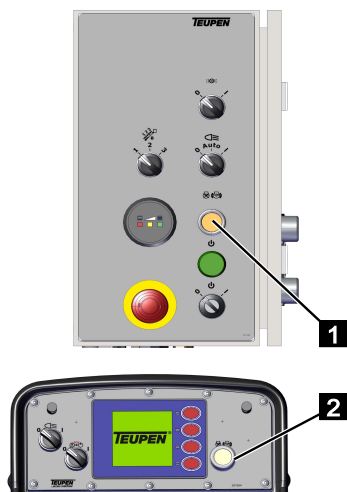

Fig. 73
3. To start, press and hold the illuminated button (Fig.73/1) on the control box or (Fig.73/2) on the control panel for at least 2 seconds.
4. To switch off the combustion engine, press and hold the illuminated button (Fig.73/1) on the control box or (Fig.73/2) on the control panel until the combustion engine stops.